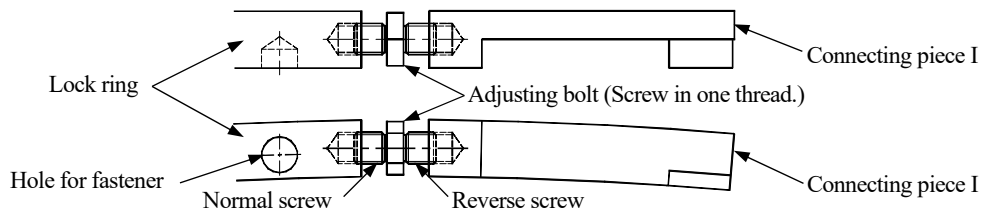

Figure 5 Connecting piece I and adjusting bolt of lock ring
- 1) Screw one side of the adjusting bolt into the tapped hole on the end of the lock ring by only one thread then the other side into the tapped hole on the connecting piece I by only one thread (see Figure 5). In this case, make the direction of the hole for fastener on the lock ring and slot portion of connecting piece I same, and screw the reverse screw of the adjusting bolt into the connecting piece I.